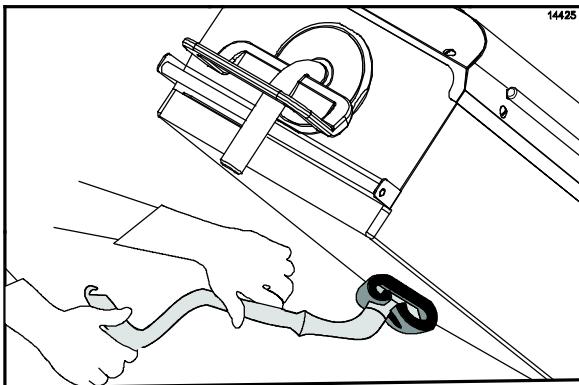

Figure 57
25. Scrub the platen surfaces, starting from the right platen to the left platen. (See Figure 57.)